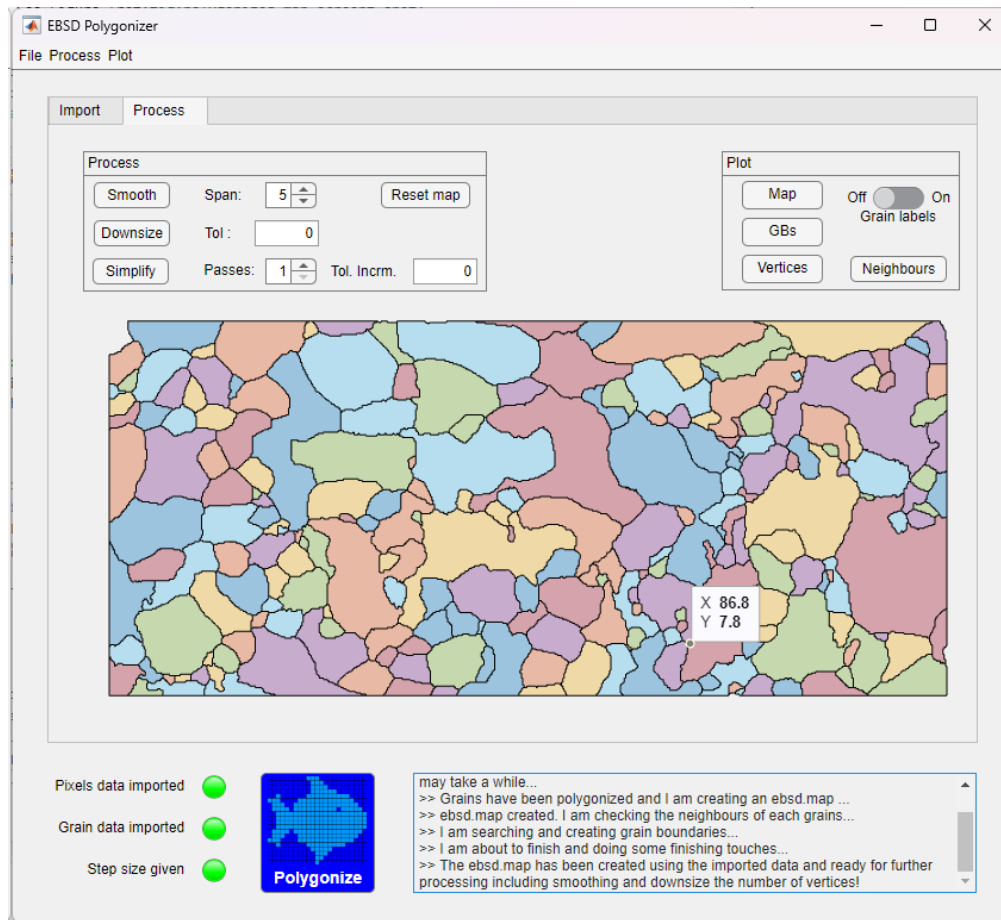

Figure 1.7: Polygonized microstructure
2. The application will provide progress updates, and upon completion, display the results for review and further processing. See Figure 1.7